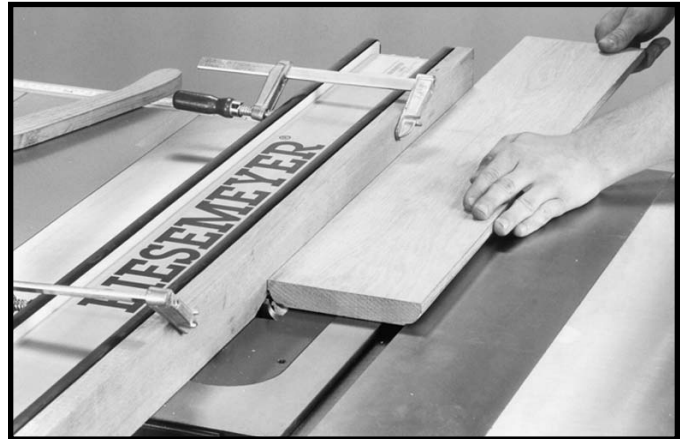

Fig. 136
It is necessary when using the moulding cutterhead to add wood-facing (C) to the face of the rip fence, as shown in Fig. 136. The wood-facing is attached to the fence with two clamps, as shown. 3/4 inch stock is suitable for most work although an occasional job may require 1 inch facing.
Position the wood-facing over the cutterhead with the cutterhead below the surface of the table. Turn the saw on and raise the cutterhead. The cutterhead will cut its own groove in the wood-facing. Fig. 136, shows a typical moulding operation. **NEVER USE MOULDING CUTTER-HEAD IN A BEVEL POSITION.**